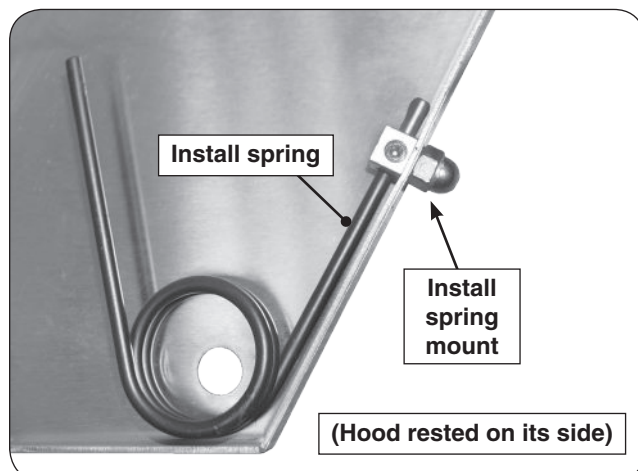

Fig. 3-1 Install spring and spring mount (on hood)
7. HOOD: install the new spring and mounting hardware. Ensure the spring is oriented exactly as shown in Fig. 3-1.